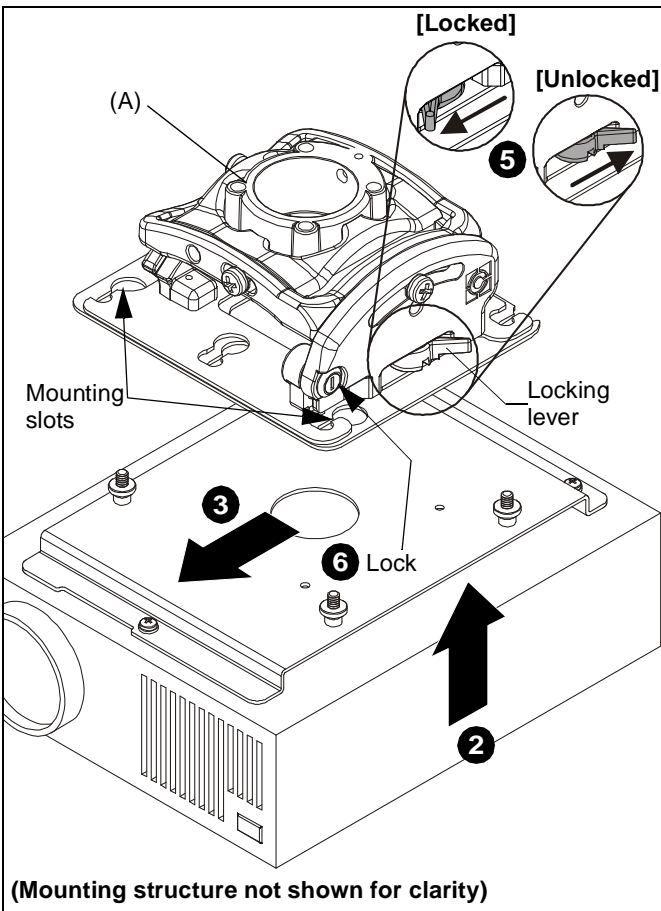

Figure 8
2. Lift projector so that screws with thumb nuts are aligned with mounting slots in mount base. (See Figure 8)
5. Move locking lever to "LOCKED" position. (See Figure 8)